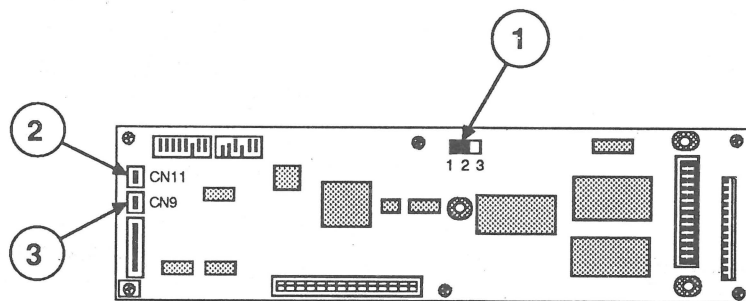

FIGURE 6
- A selector switch that allows this board to be used with both the mechanical and the optical paper sensor (Figure 6, #1). If a mechanical paper sensor is installed, the jumper should be on pins 1 and 2. If an optical paper sensor is installed, the jumper should be on pins 2 and 3.
- An extra connector, CN11, that is used for the optical paper sensor (Figure 6, #2). Connector CN9 is used for the mechanical paper sensor (Figure 6, #3).